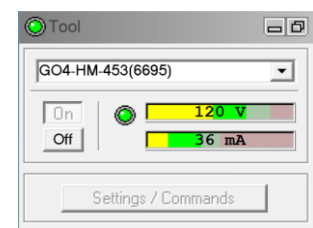

Figure 4-1 Tool panel
3. In the **Tool** panel switch on the tool (click **On** button). Verify that the voltage indicator shows a valid green level (shown as 120 V in **Figure 4-1**). The current indicator should also be green and greater than 10 mA (shown as 36 mA in **Figure 4-1**). The system goes through a short initialization sequence which sets the default parameters and communication settings held in the tool configuration file. The configuration returned by the tool is also checked during this procedure (Setup tool communication as explained in **Chapters 4.2 and 4.3**).